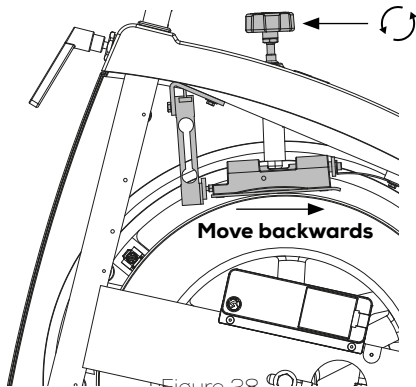

Figure 28
2) Release all tension and push the brake unit back on the shaft, see figure 28.